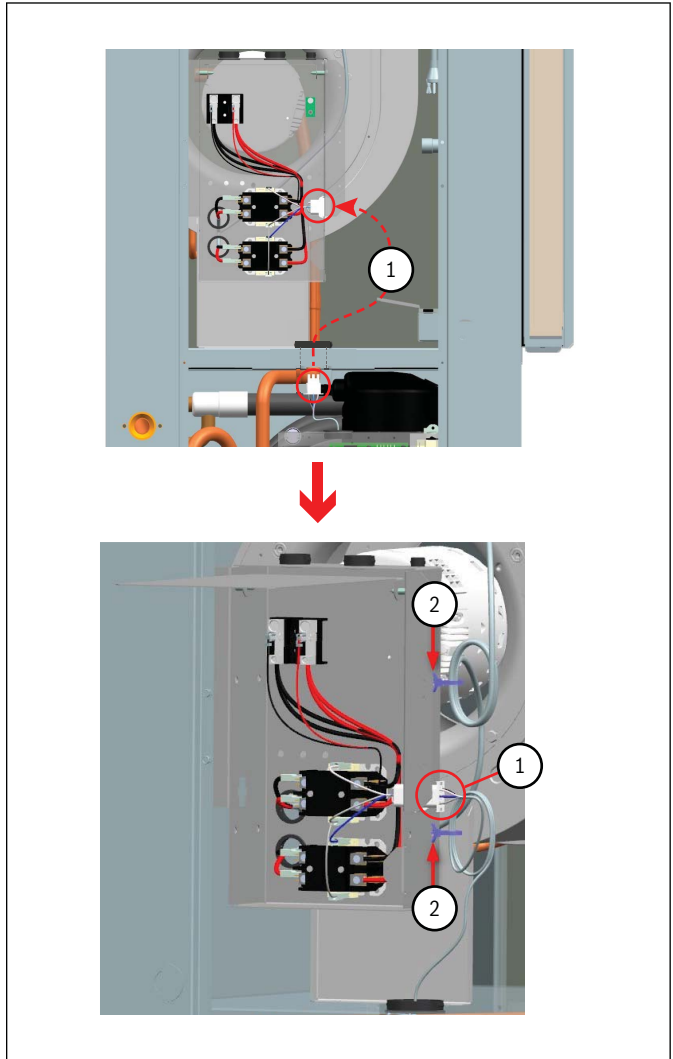

Figure 40
10. Take the male end of the J39 plug harness and fish it through the unit divider hole. Connect this plug into the female J39 connector (Figure 40, Pos. 1) on the side of the Electric Control Box. Using push tie straps provided, bundle excess element and control wiring (Figure 40, Pos. 2) as shown.